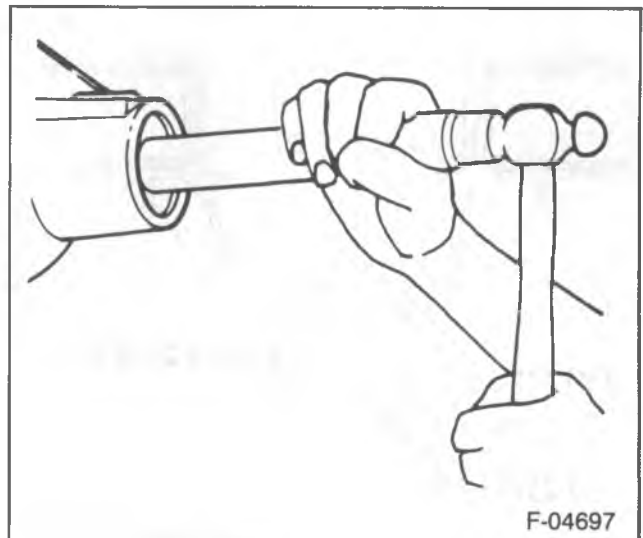

Figure 9—Installing the Front Pinion Bearing Cup
1. Front pinion bearing cup (39) using J 8611-01 and J 8092 (figure 9).